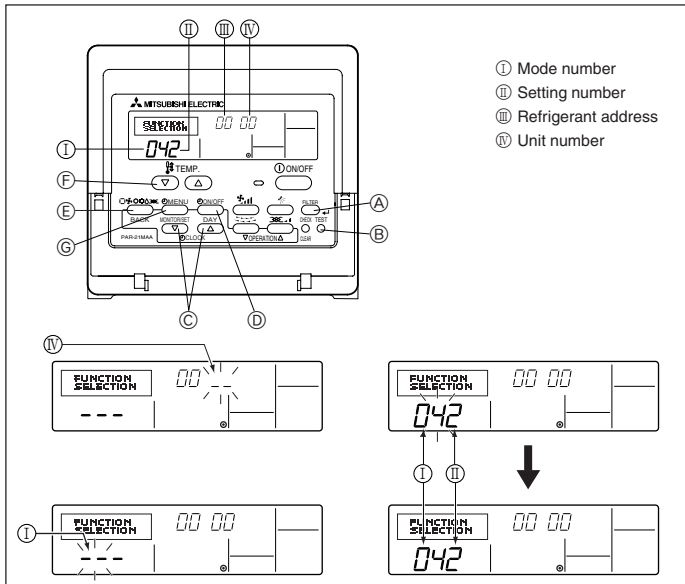

Fig. 5-5
5.3.1 Function setting on the unit (Fig. 5-5)